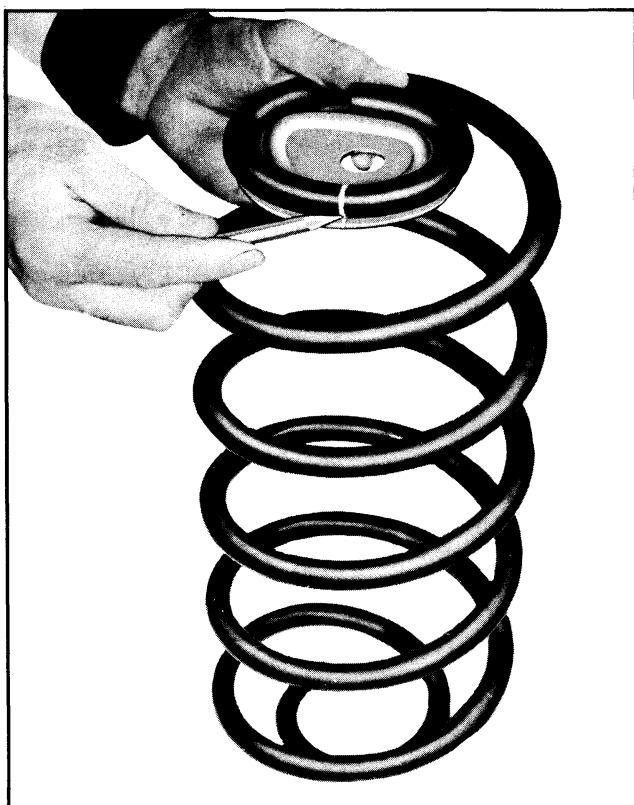

Fig. 3-32 Scribing Mark on Spring and Clamp
11. Place the upper spring clamp in each end of the new spring to determine at which end the clamp fits best. After selecting the best end for the upper clamp, scribe a mark on the spring and also on the spring clamp (Fig. 3-32). When the spring and upper